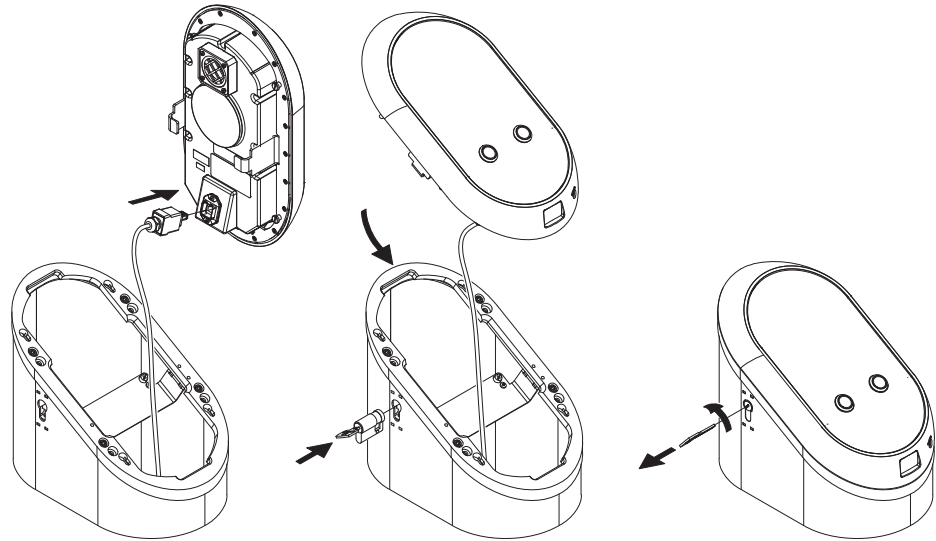

Figure 3-9 SV|51 Base Unit Assembly
- Step 1** Plug-in the RJ Industrial 10G Ethernet Cable Termination into the termination point of the base unit, see **Figure 3-9**.